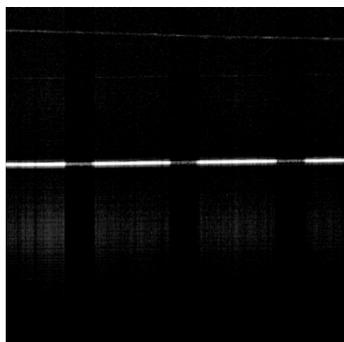

Figure 5
2. Start the scan. Adjust so that the edge of the ruler is visible. The image should appear as a dashed line with long bright dashes and short dark dashes (Figure 5).